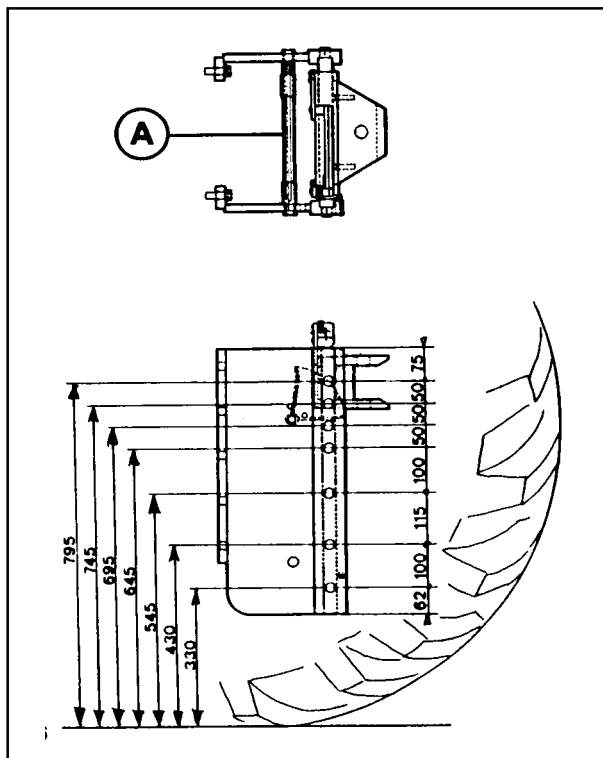
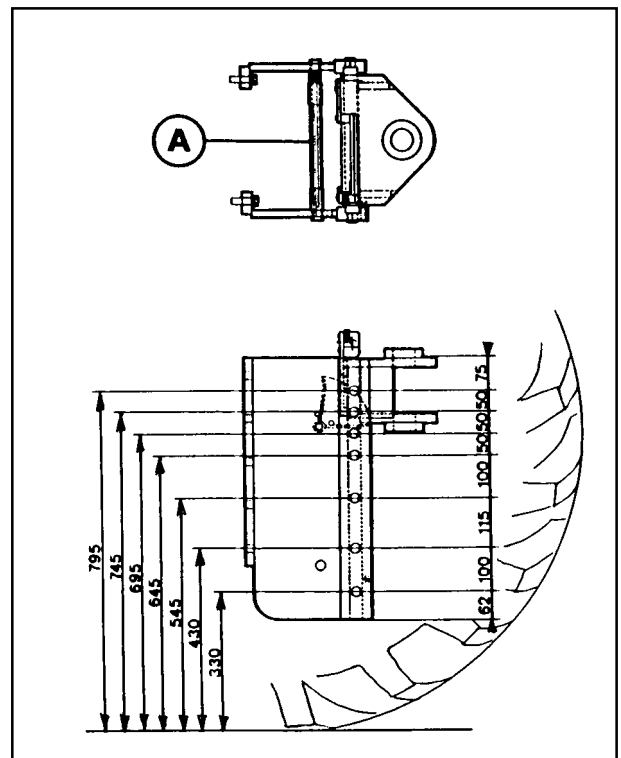

Fig. 4-59 - Class "C" rear tow hook (18.4 R34)
Fig. 4-60 - Class "D3" rear tow hook, adjustable in height (18.4 R-34)
On request, the tractor can be supplied with a Class "C" (Fig. 4-59) or "D3" tow hook (Fig. 4-60) with quick height adjustment. Six heights from ground level can be obtained. A lever (A) releases the tow hook which can then slide upwards or downwards as needed.